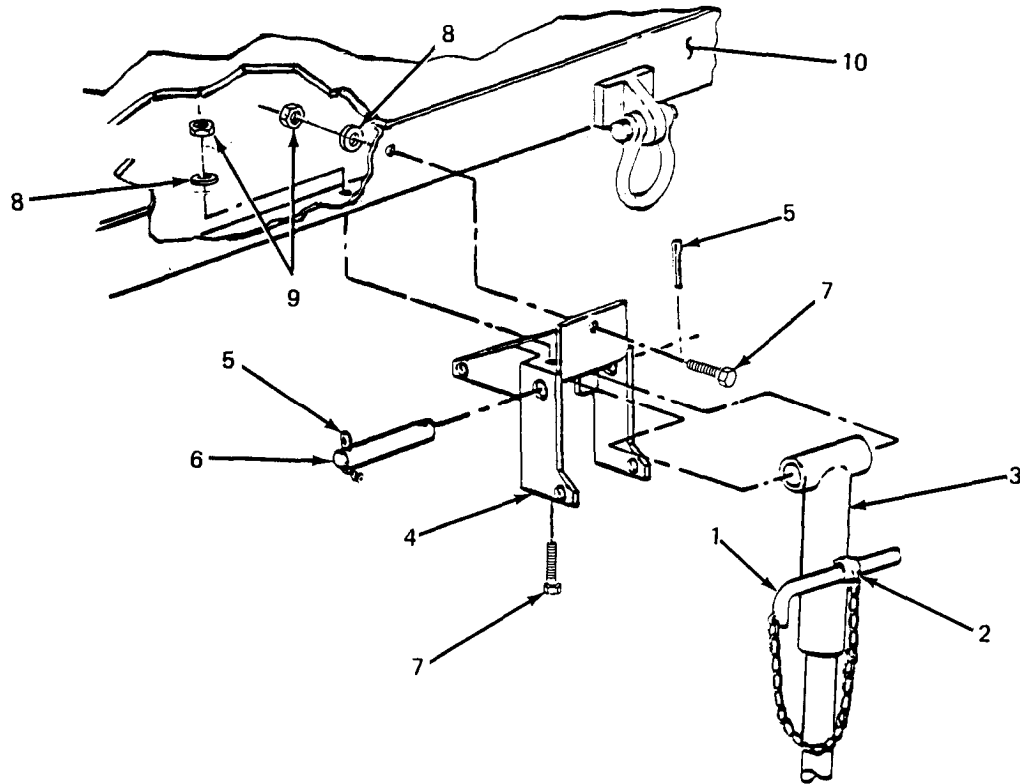

Figure 5-1. Leg Prop Assembly Replacement.
a. Leg Prop Assembly Replacement. (See figure 5-1.)
- (a) While supporting leg prop assembly, pull out angled bar (1) and lower leg from traveling position.
- (b) Line up boss (2) on upper leg (3) with holes in bracket (4) and insert angled bar (1) to lock leg in support position.
- (c) Remove either one of two cotter pins (5) from leg prop assembly pivot shaft (6).
- (d) While steadying leg prop assembly, remove shaft (6) with remaining cotter pin (5) in place.